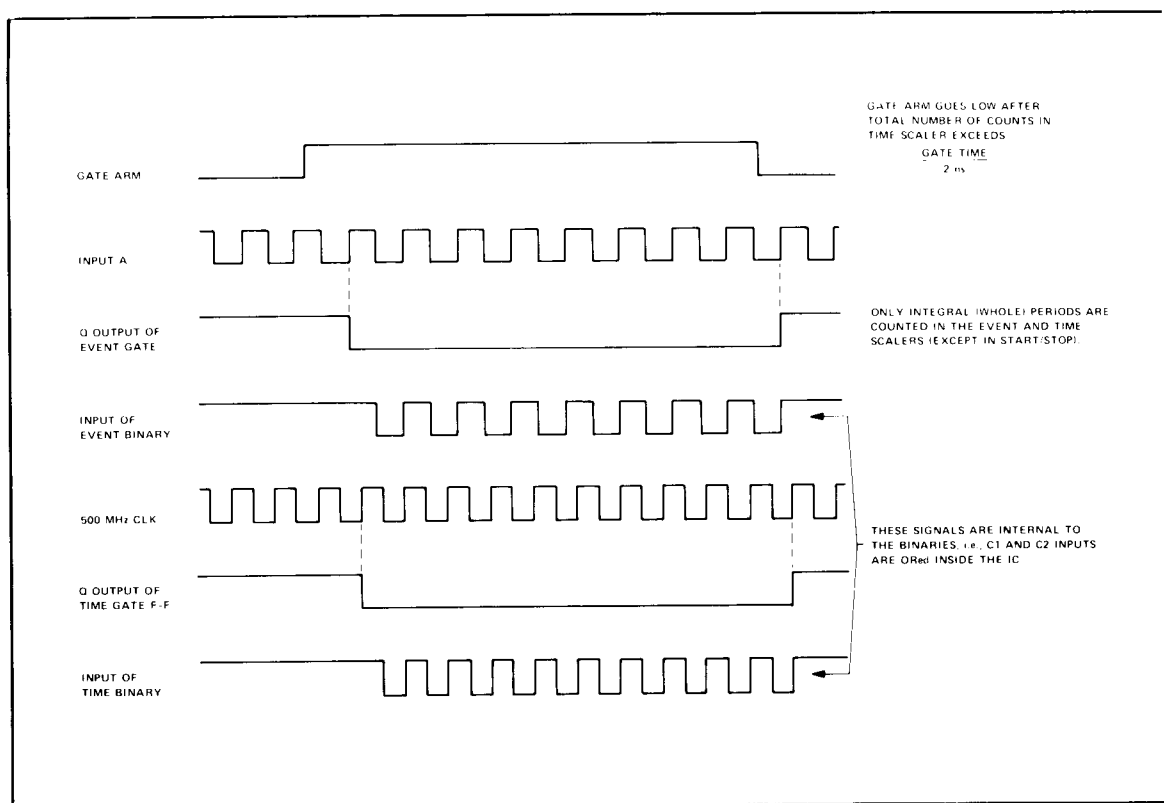

Figure 4-18. A9 Timing Diagram for Frequency, Period, Ratio, and Start/Stop
4-135. Noting the timing diagram of Figure 4-18, it is seen that once the GATE ARM line goes High (ECL), it places a Low (EECL) on U5(3). This allows the next input signal to toggle the Event Gate flip-flop. This does two things. (1) It places a Low on U4(14), which enables U4 and allows the next input pulse to enter the Event Scaler. (U4 is a binary of the scaler). (2) It places a Low on the D input of U7, which allows the next 500 MHz clock pulse to toggle the flip-flop and enable U2 with a Low on C1. This allows the clock signal to enter the Time Scaler. Binaries U4 and U2 pass their divided ($\div 2$) signals to U9 and U3, respectively, where the signals are further divided-by-10. The divide-by-20 input and clock signals are sent to the A11 Scaler board through emitter followers Q15-18.